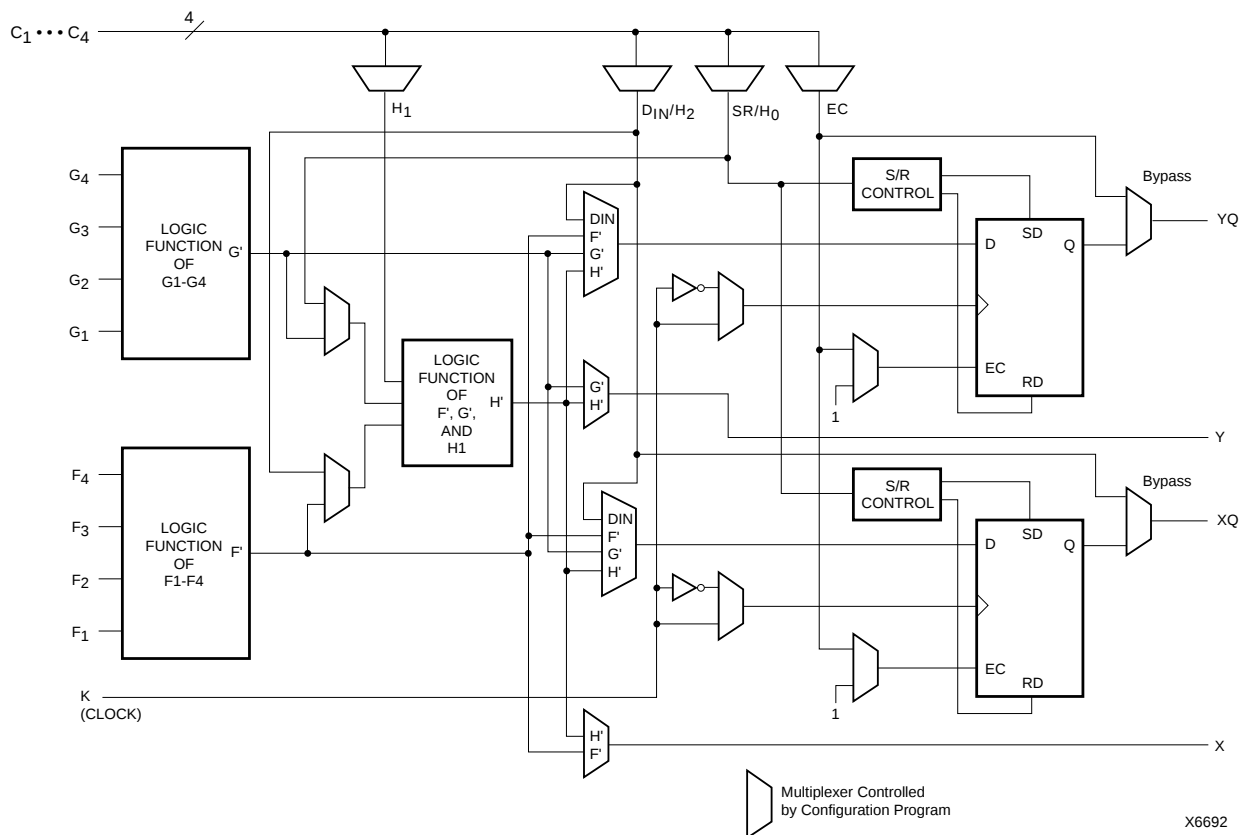

Figure 1: Simplified Block Diagram of XC4000 Series CLB (RAM and Carry Logic functions not shown)
Configurable Logic Blocks implement most of the logic in an FPGA. The principal CLB elements are shown in Figure 1. Two 4-input function generators (F and G) offer unrestricted versatility. Most combinatorial logic functions need four or fewer inputs. However, a third function generator (H) is provided. The H function generator has three inputs. Either zero, one, or two of these inputs can be the outputs of F and G; the other input(s) are from outside the CLB. The CLB can, therefore, implement certain functions of up to nine variables, like parity check or expandable-identity comparison of two sets of four inputs.